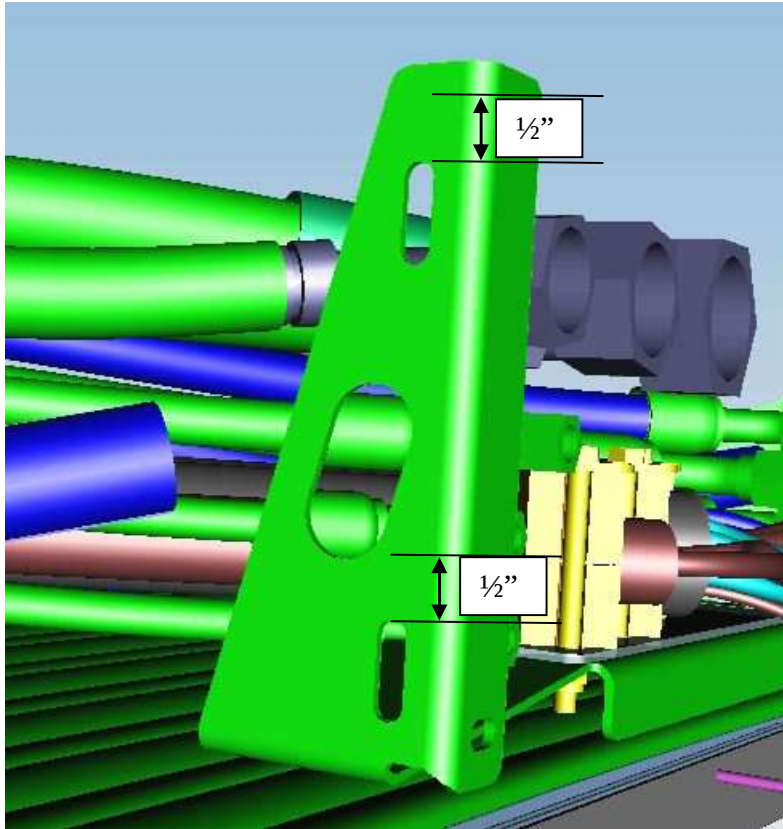

Figure 5: Add maximum of 1/2"
6. Increase the size of the four slots by 1/2" maximum. See figure 5.